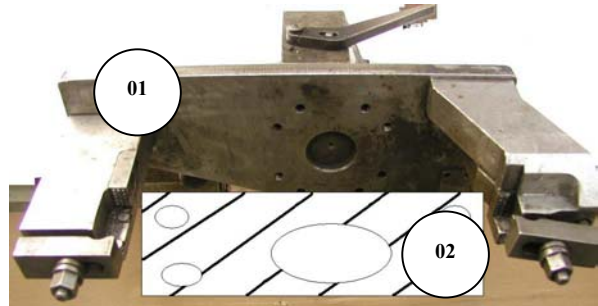

Figure 05
- For transmission disassembly and reassembly we recommend using a locating fixture as shown in Figure 05.